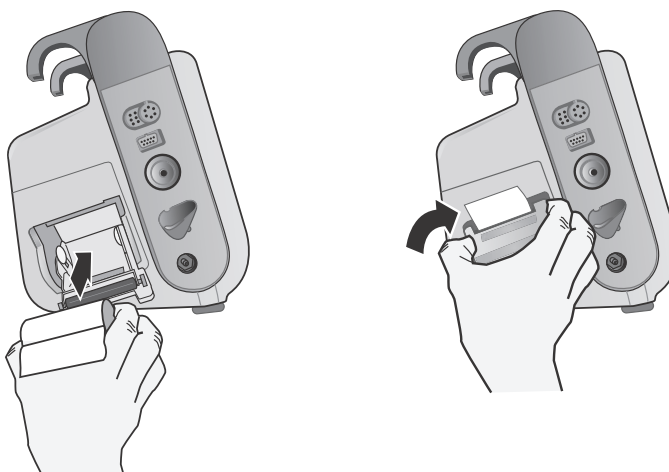

Figure 21-2. Inserting the Paper and Closing Printer Door
4. Place the paper back into the unit and close the cover (see Fig. 21-2).